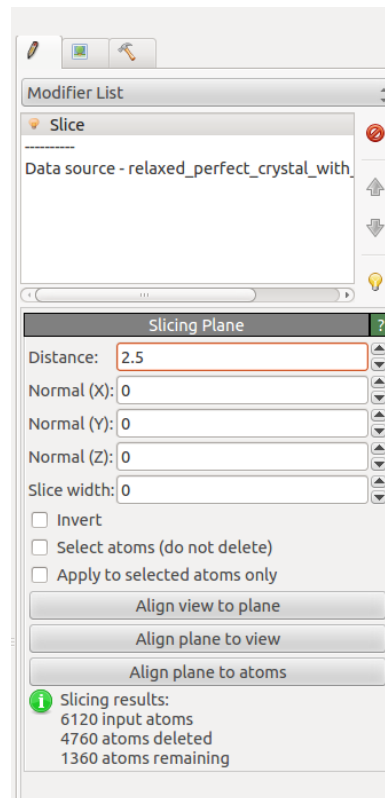

Figure 1.7: An example setting for showing a 2b layer of the model in Ovito software
- iii) Under slice bar there should be no change in the shape of the core structure(blue square) as you change the value of the "distance" into 0 , 2.5(2b) , 5(4b), 7.5(6b), 10(8b) and 12.5(10b). Change the values of other options to zero except "Normal Z" and "Slice width" which should be change into 1 (See Fig. 1.7).